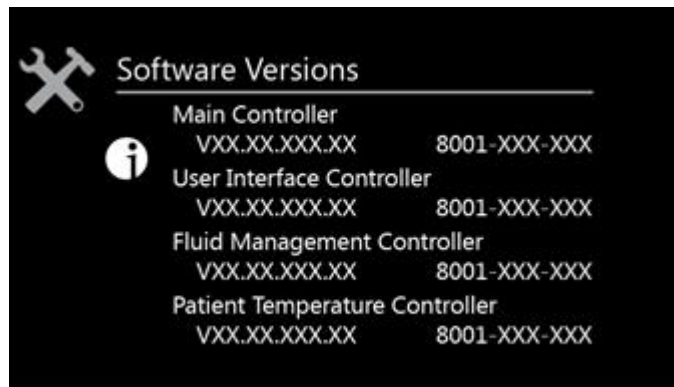

Figure 7: Software versions, sample screen
2. Displays controller software versions. (Figure 7 on page 16)